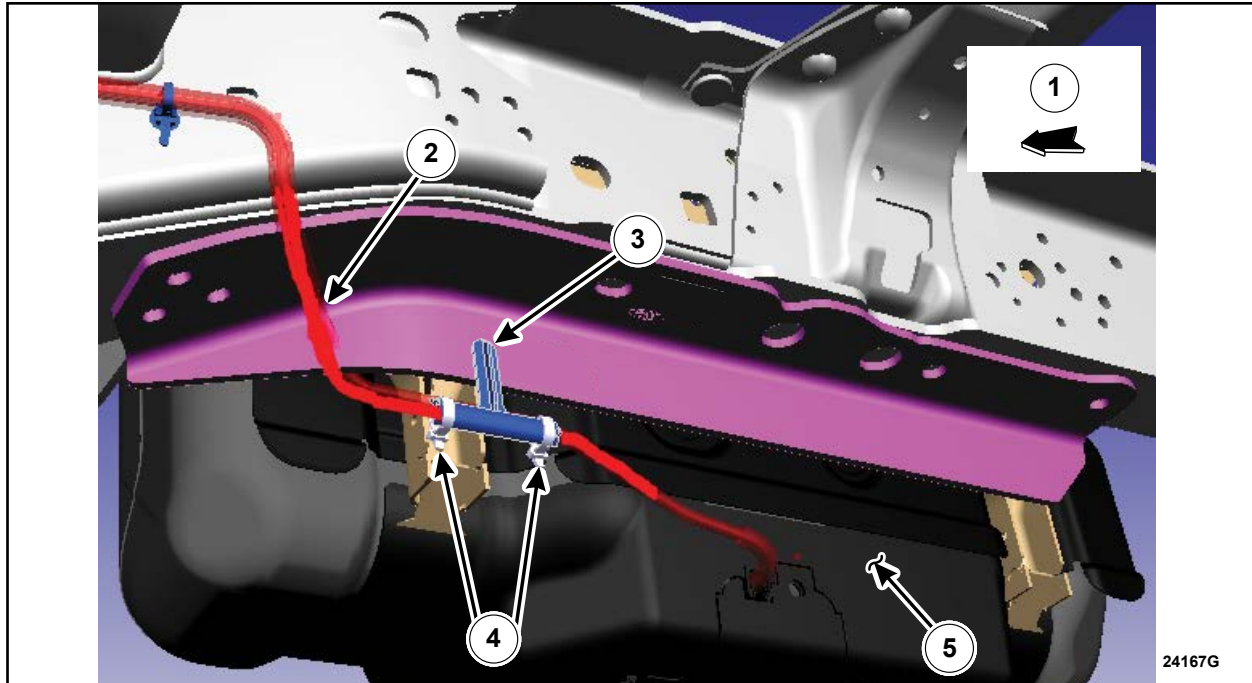

FIGURE 21
2. Once the RH side lower bracket has been installed, install the supplied T clip to the existing hole in the lower reinforcement bracket and route the DEF pressure line toward the T clip and attach the T clip to the DEF pressure line with two (2) of the supplied zip ties as shown in Figure 21.